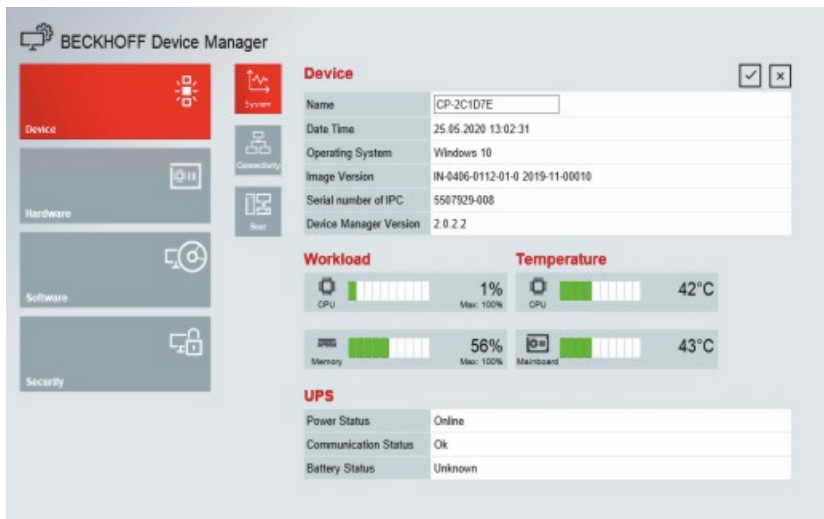

Fig. 25: Beckhoff Device Manager – Start page
2. Lift the PC far enough so that the fastening screws slip into the keyholes (see fig. 25).